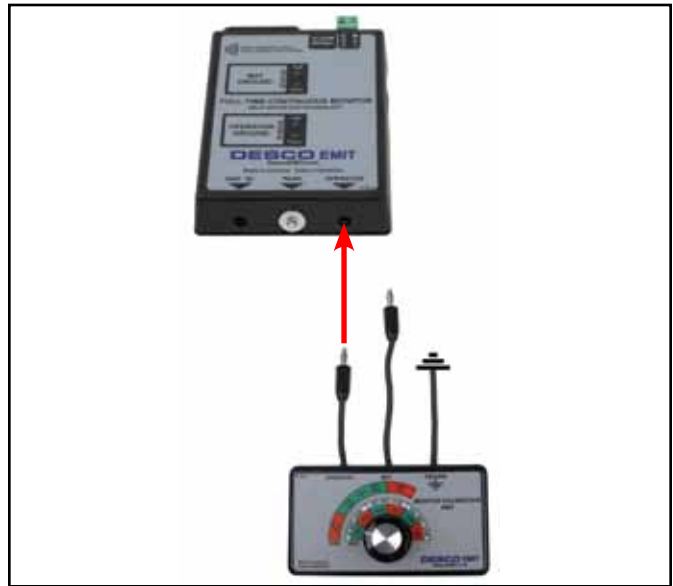

Figure 2. Connecting the OPERATOR test lead from the Monitor Calibration Unit to the Full Time Continuous Monitor
Step 2: Insert the Calibration Unit's banana plug labeled "OPERATOR" into the jack labeled "OPERATOR" on the Full Time Continuous Monitor (see Figure 2).